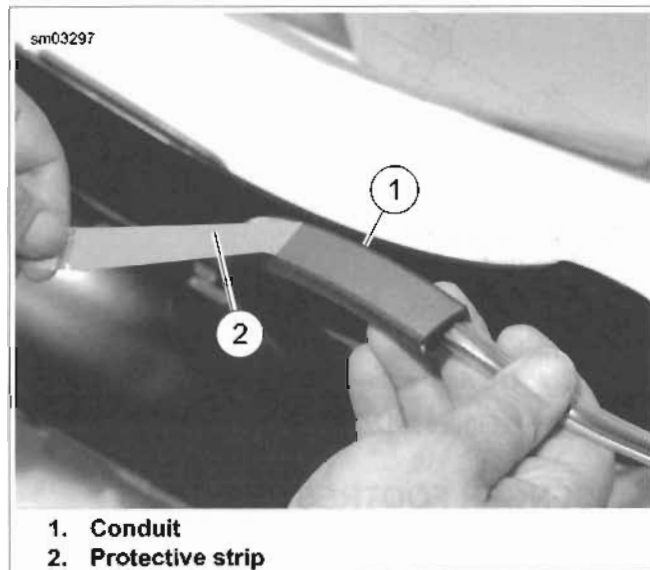

Figure 2-122. Removing Protective Strip From Conduit
7. See Figure 2-122. Remove protective strip covering adhesive on conduit.